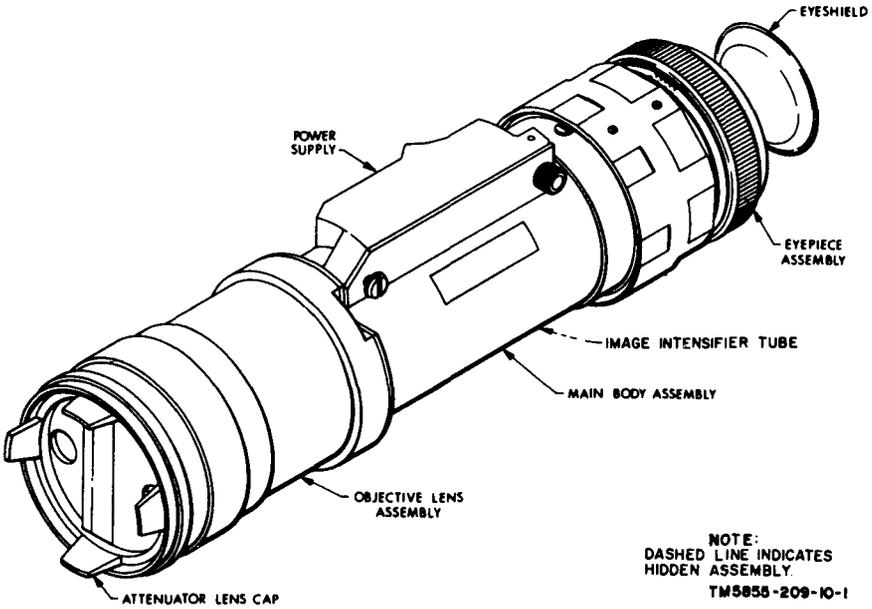

Figure 1-1. Night sight, front left view.
b. Night Sight (fig. 1-1). The night sight consists of a main body assembly which includes the objective lens assembly, eyepiece assembly, image intensifier tube, and power supply. An eyeshield is attached to the eyepiece assembly, and an attenuator lens cap fits on the objective lens assembly.
- (1) The attenuator lens cap reduces the amount of light entering the image intensifier tube during daylight operation.
- (2) The eyeshield aids in security by preventing light leaks on the operator's face caused by visible glow from the eyepiece assembly. Rubber flaps in the eyeshield close completely to prevent light leakage when the operator removes the eyeshield from his eye
- (1) Examine the night sight external parts, surfaces, and threads for cracks, chips, warping, or abrasions. Check to insure that the nameplate and eyepiece vernier are readable.
- (2) Examine the lenses in the eyepiece assembly and objective lens assembly (fig. 1-1) for fogginess, condensation, or other signs of moisture.
- (3) Examine the attenuator lens cap for rips, dust, or damaged apertures.
- (4) Examine the carrying case for rips and missing or damaged
- (5) Examine the battery trays for damage.